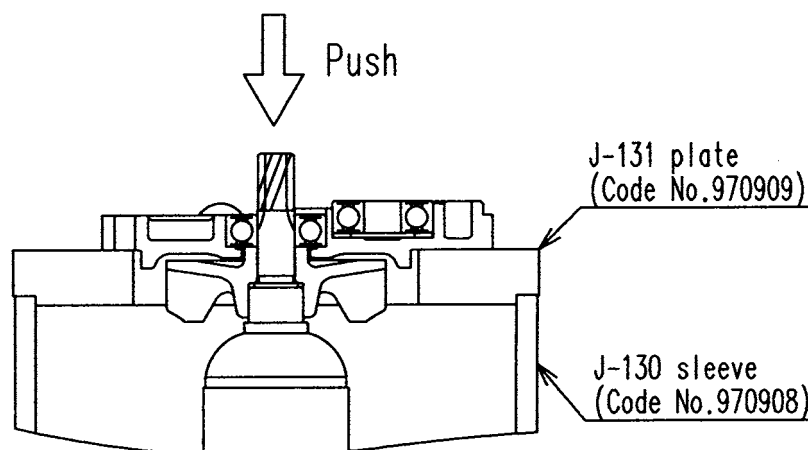

Fig. 5
Remove the three Tapping Screws D4 x 25 (Black) **[7]** **<7>** from the Gear Cover (A) Ass'y **[8]** **<8>**, and remove the Inner Cover Ass'y **[20]** **<19>** with the Armature **[21]** **<20>** from the housing. And as illustrated in Fig. 5, the Inner Cover Ass'y **[20]** **<19>** can be removed from the Armature **[21]** **<20>** by utilizing a J-130 sleeve (special repair tool, Code No. 970908) and a J-131 plate (special repair tool, Code No. 970909).
- (1) Remove Gear Cover (A) Ass'y [8] <8> and the Inner Cover Ass'y [20] <19>, then Socket (A) Ass'y [11] <11>, Gear Set [14] <14> and Clutch Disc [12] <12> can be removed. If the Gear Set [14] <14> is hard to remove, lightly tap the end surface of the Inner Cover Ass'y [20] <19> with a wood hammer. Be careful not to lose the Spring [13] <13> on the outer circumference of the Gear Set [14] <14> and Washer (A) [16] <16>. As shown in Fig. 5, insert two flat-blade screwdrivers between the Inner Cover Ass'y [20] <19> and the Gear Set [14] <14> at each side and remove the Gear Set [14] <14> and Ball Bearing 608VVC2PS2L [15] <15> from the Inner Cover Ass'y [20] <19> as a single unit.